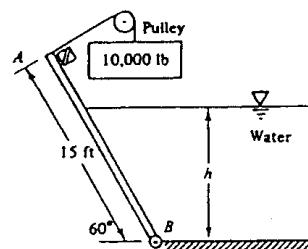

Fig. P2.62
**2.62** Gate AB in Fig. P2.62 is 15 ft long and 8 ft wide into the paper, hinged at B with a stop at A. The gate is 1-in-thick steel, SG = 7.85. Compute the 20°C water level  $h$  for which the gate will start to fall.